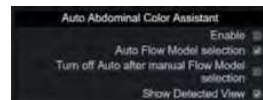

Figure 13-311. Configuration for Auto Abdominal Color Assistant
4. See Figure 13-311 for detail parameters.